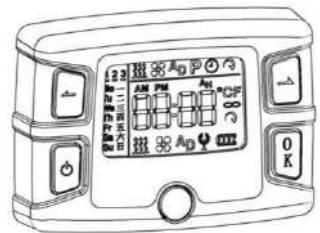

Fig.12
5.4 LCD switch (Optional device, see Fig.12)